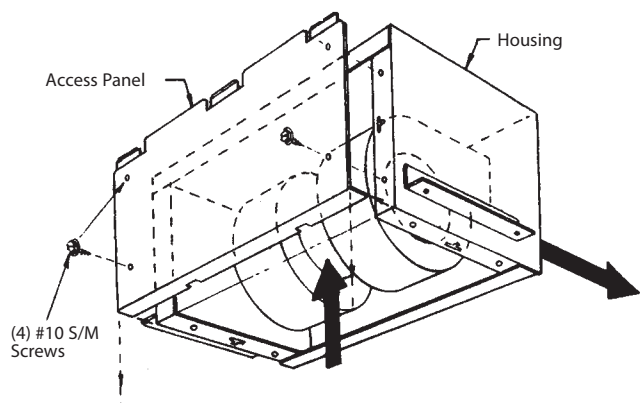

FIGURE 28: "RA" (RIGHT ANGLE)
Note: As a standard, RA / TD units are furnished with a Right Angle (RA) discharge as shown in Figure 28.
1. Disassemble the access panel from the housing by first removing the four #10 sheet metal screws and then removing the panel as shown in figure 28. Disassemble the access pan panel as shown in figure 28.